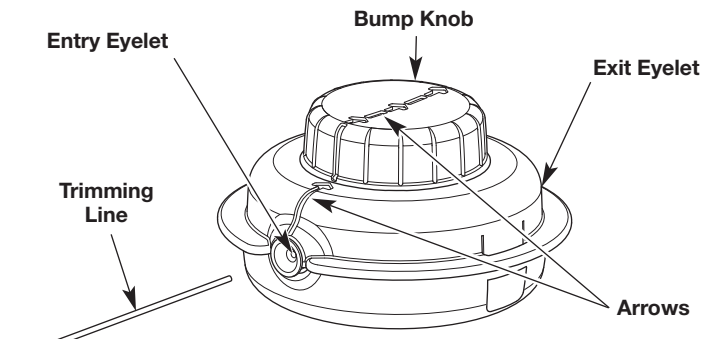

Fig. 17
- Turn the bump knob clockwise to align the arrows (Fig. 17).
- Insert the new trimming line into the entry eyelet (Fig. 17). Push the line through the cutting head until a few inches protrude from the exit eyelet. Pull the protruding line until approximately 10 feet (3 m) of line extends from each side of the cutting head. Make sure the line lengths on each side are equal.